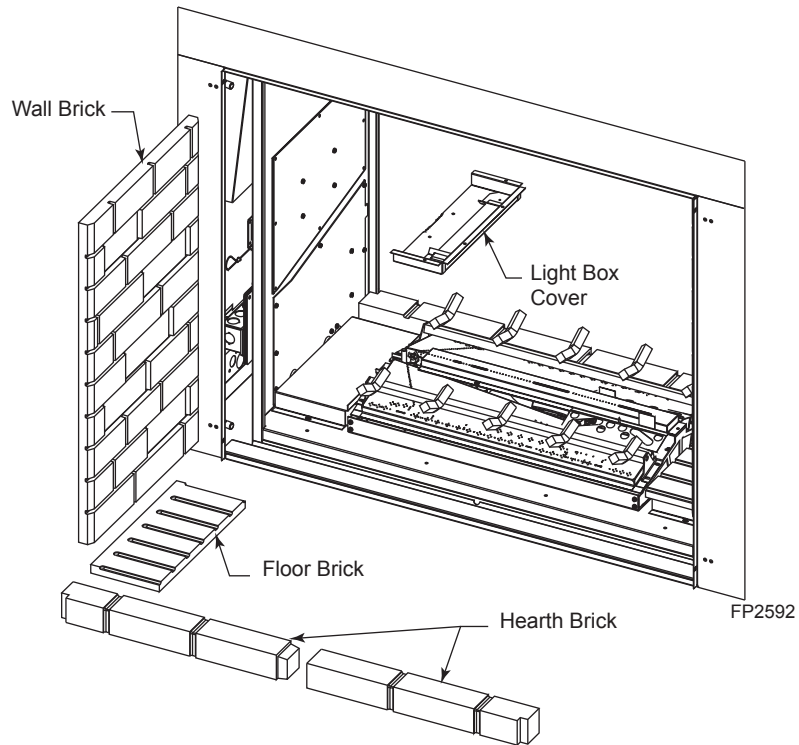

**Figure 35 -
4. The light lenses are included in the Homeowner's Manual packet. Remove the lens retainer brackets and install the light lenses into the light box covers as shown in *Figure 35*.